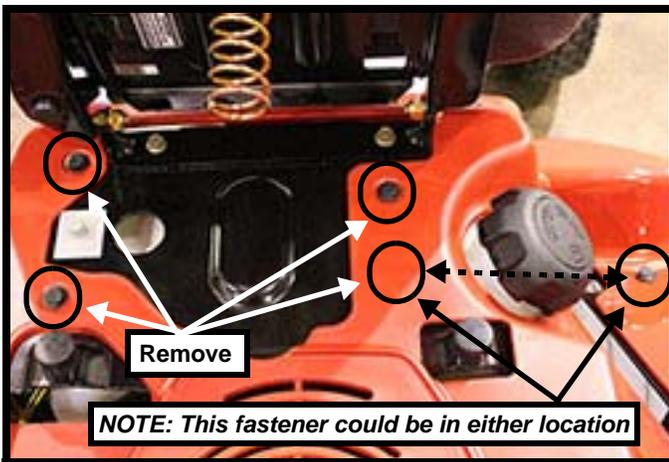

Figure 1
5. Remove the four fasteners that secure the fender to the frame. They could be plastic rivets or shoulder bolts. Plastic rivets shown in Figure 1. **NOTE: See the last page for instructions on removing plastic rivets.**